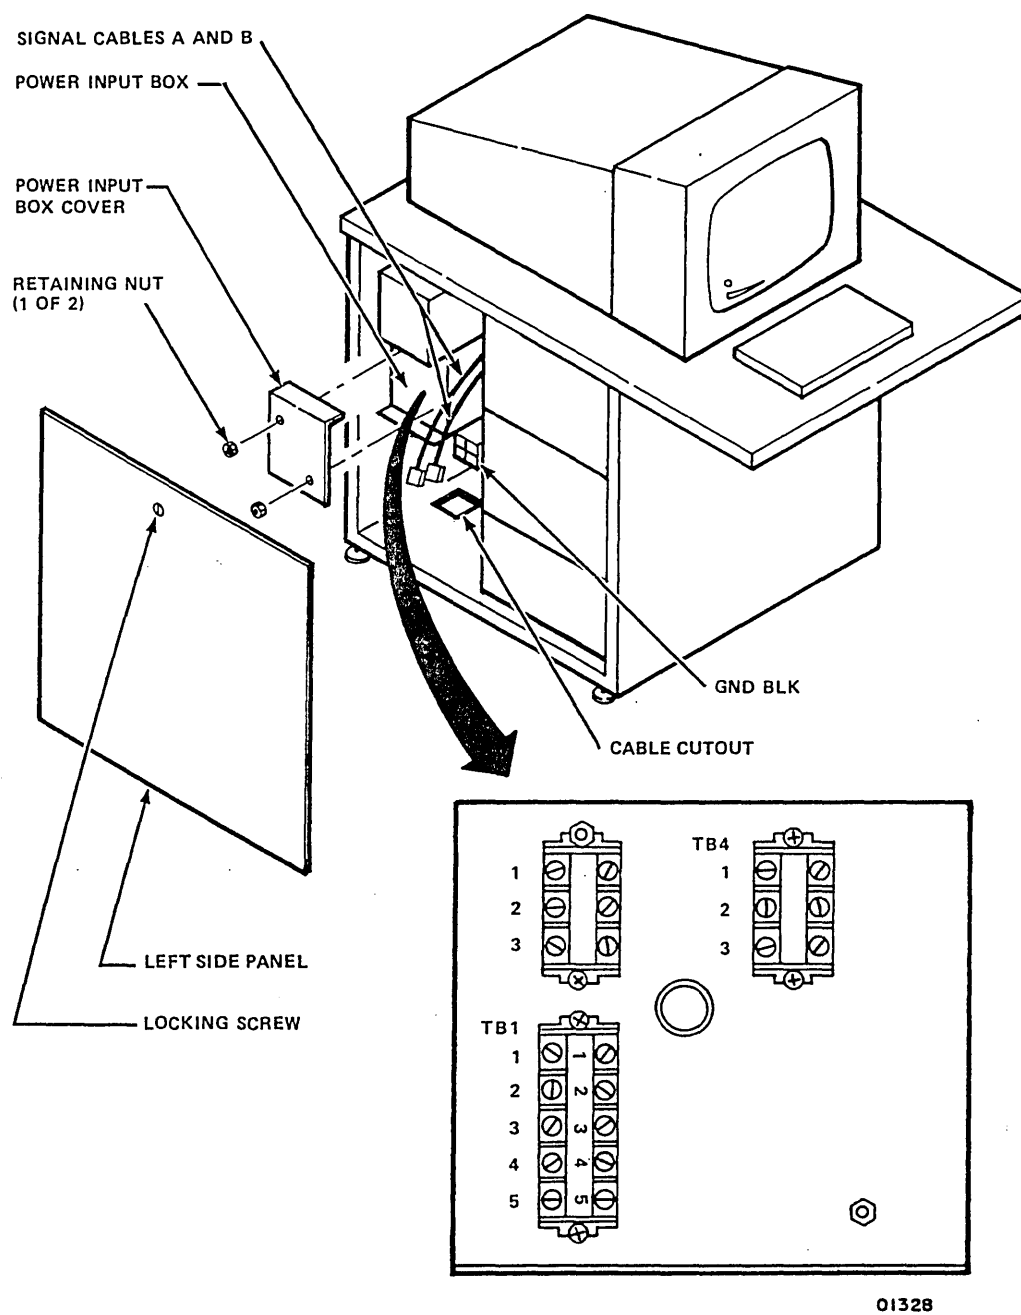

Figure 5-2. Power Connections to Display Station
- ___ 1. Remove left side panel from display station (figure 5-2).